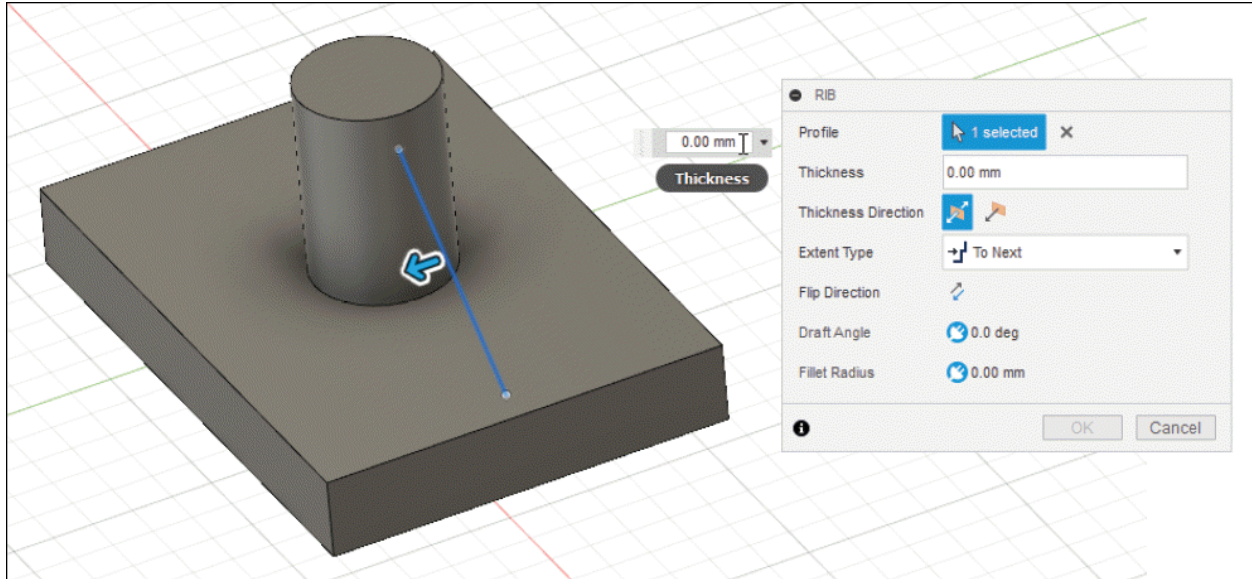

Figure-21. Updated RIB dialog box
- The **Profile** section of **RIB** dialog box is active by default. Select the sketch curve joining edges of solid model to create rib. The updated **RIB** dialog box will be displayed; refer to Figure-21.